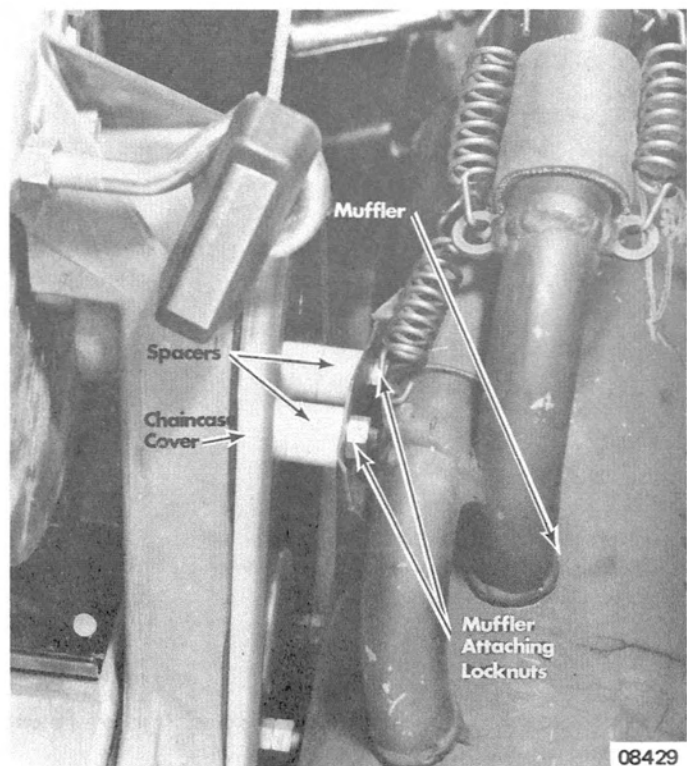

Figure 3. Muffler Removal
5. Remove 2 muffler attaching locknuts from upper chaincase thru bolts (Figure 3) and remove muffler.
1. Install muffler on 2 upper chaincase thru bolts (Figure 3) and secure with locknuts. Tighten locknuts evenly to specification. (Refer to "Specifications" Section 8.)